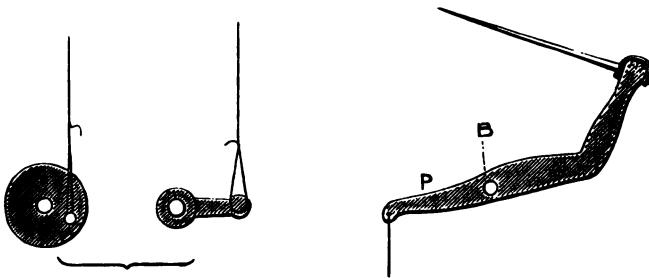

FIG. 61.—PLAIN CRANK FOR MECHANICAL MOVEMENT TOY.
in any required direction—vertical, horizontal, or angular. In Fig. 61 is the plain crank, either a pin on a revolving disc or a simple short arm on the end of the pinion. To this is attached a cord to (let us say) the arm of a figure carrying a sword (B), the arm being pivoted at P. The crank by its revolution will pull this string at regular intervals, and the arm will be therefore slowly and steadily raised and lowered. The motion of a crank is not quite regular, but may be considered so.